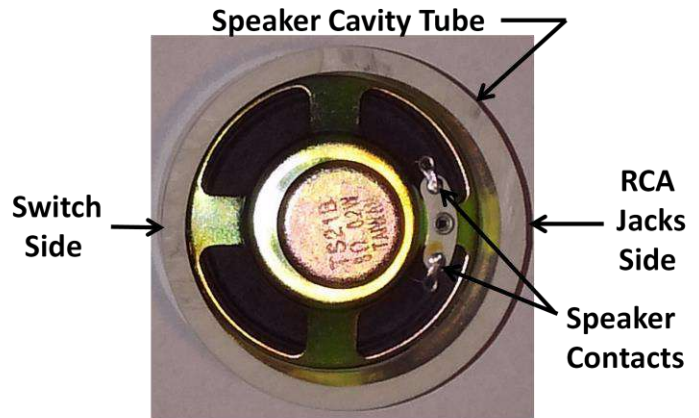

FIG. 5
- 1 – After the glue on the **Speaker** and **Cover Disk** is dry, place the **Speaker** face down on a flat surface, so the magnet is up so the speaker contacts are on the right side as shown in **figure 5 and 7B**.
- 4 – Turn the tube over (glued side facing down) and orientate the **“Speaker Cavity”** tube (5) as shown in **figure 5 and 7B**. Lower the tube down onto the back of the Speaker frame. Apply a small weight to the **“Speaker Cavity”** tube to apply pressure so the speaker self-aligns to the **“Speaker Cavity.”** See figure 5 and 7A&B.